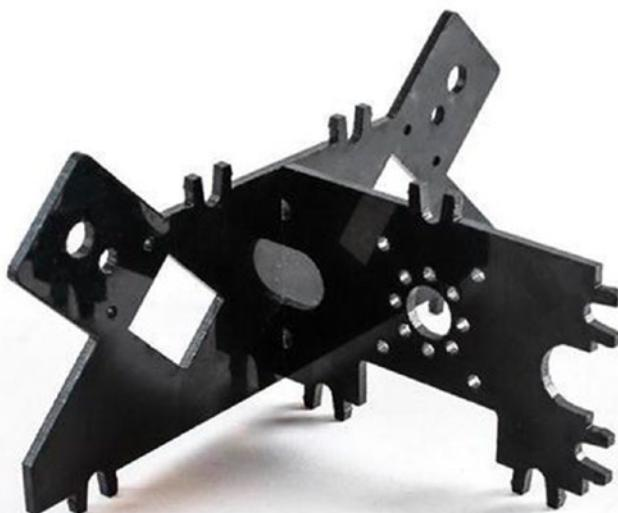

Figure 7-2. Center support attached to an outer plate
1. Attach the center support to one of the sides. Make sure that the course side is facing out. Take note of the tabs on the center support. The single pair of tabs attaches to the bottom plate (see Figure 7-2).